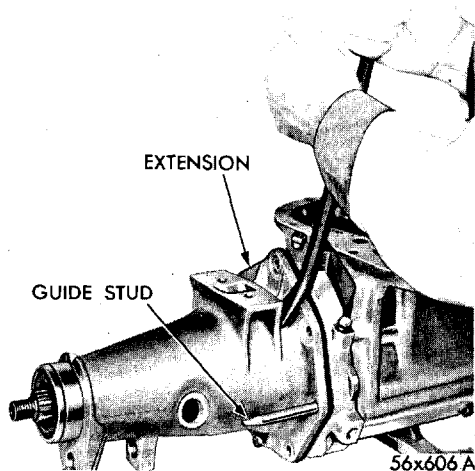

Fig. 35—Removal of Extension
(2) Inspect the output shaft rear oil seal and remove (if necessary) using puller Tool C-3690. **If transmission extension housing oil seal or bushing are to be replaced, the seal must be removed at this time before extension housing is removed from transmission case.**
(3) Remove the transmission extension to case bolts and lockwashers. Install guide studs, Tool C-3283 and remove extension from output shaft support assembly by tapping housing lightly with a soft hammer. **Housing may be separated by using a pry bar against support screw, as shown in Figure 35.** Remove extension gasket.